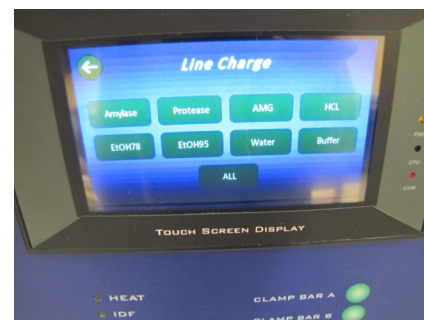

Figure 1
1. Turn on the TDF Instrument and access the “Diagnostics” screen. Select “Line Charge” on the touch screen. See Figure 1.